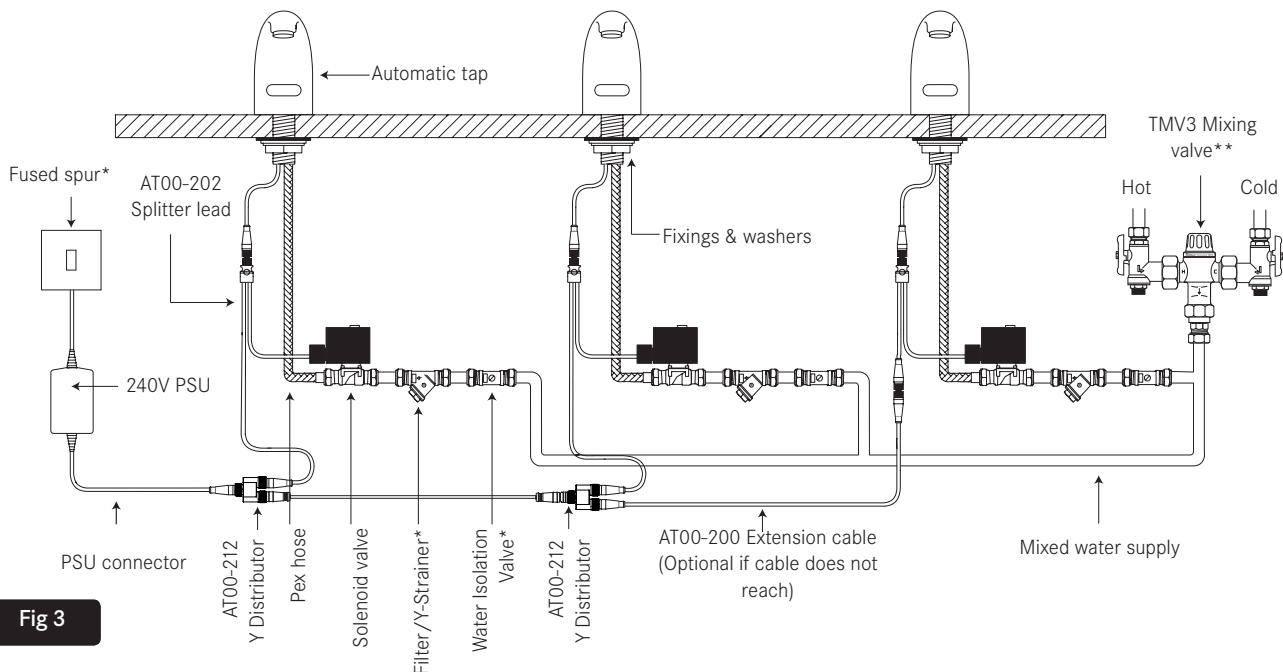

Fig 3
- Check / Clean all connectors (shown in Fig 3).
(See Fig.3 for connection leads for 2 station and 3 station kits)